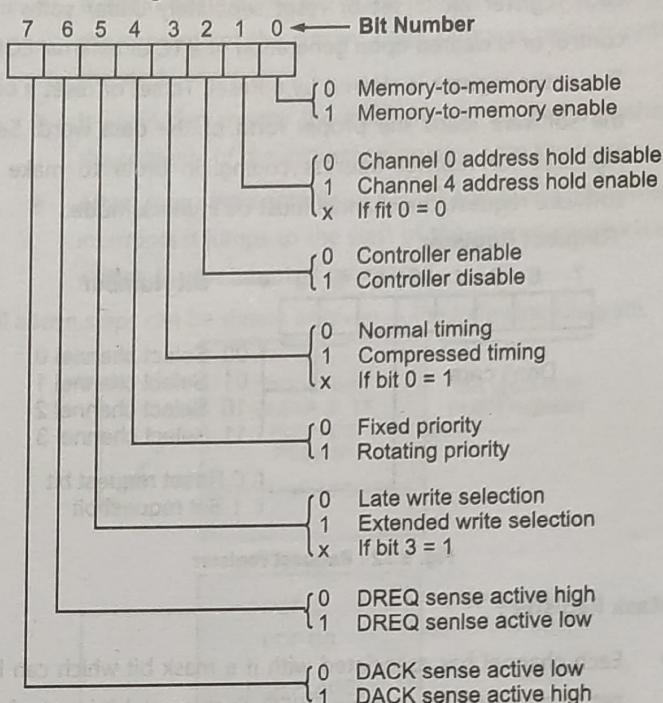

Fig. 5.10 : Command register
- The following Fig. 5.10 lists the function of the command bits. See Fig. 5.10 for address coding.